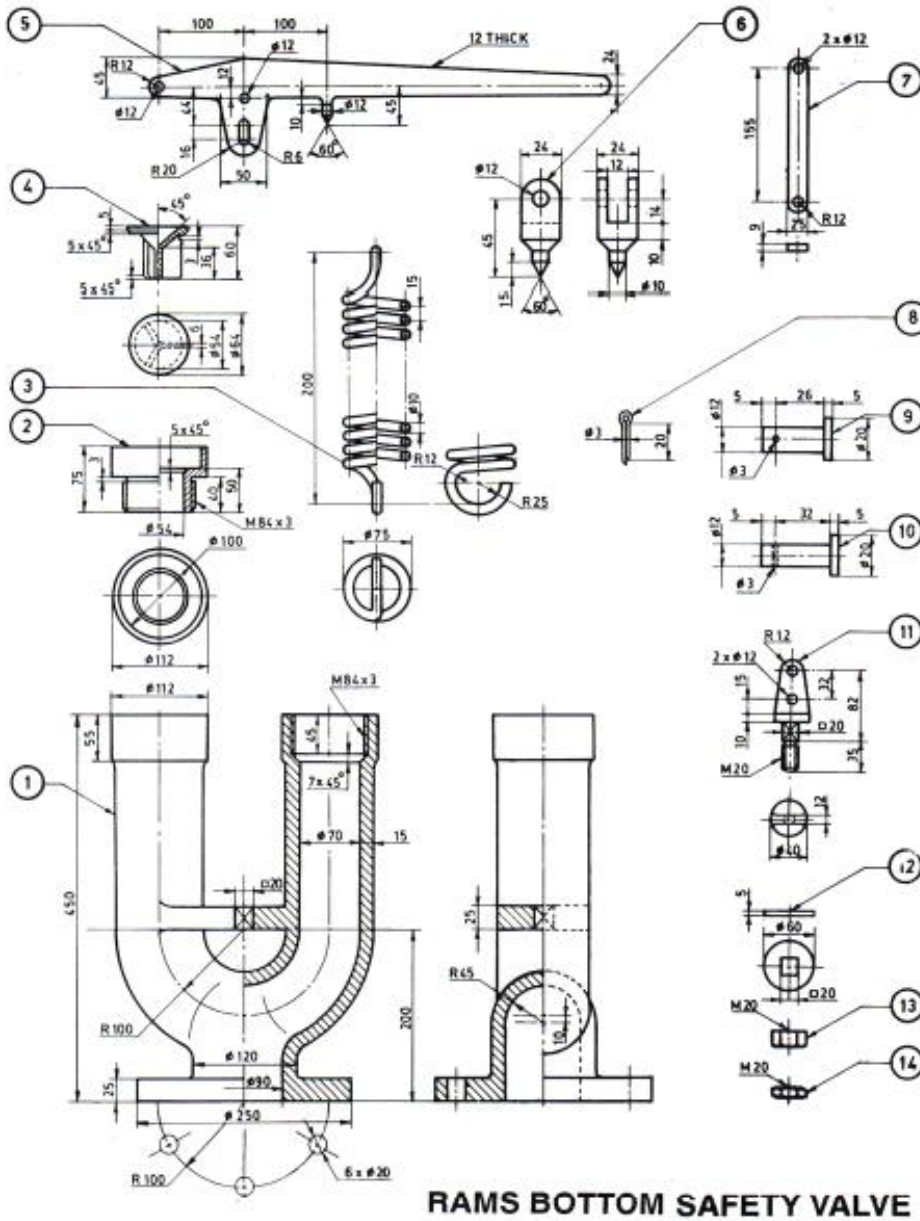

Figure B.6. Rams Bottom Safety Valve
6. Draw any two assembled views of the Rams Bottom Safety Valve as per the details given in the figure using any suitable CAD software. Also prepare bill of materials and tolerance data sheet. Refer figure B.6.